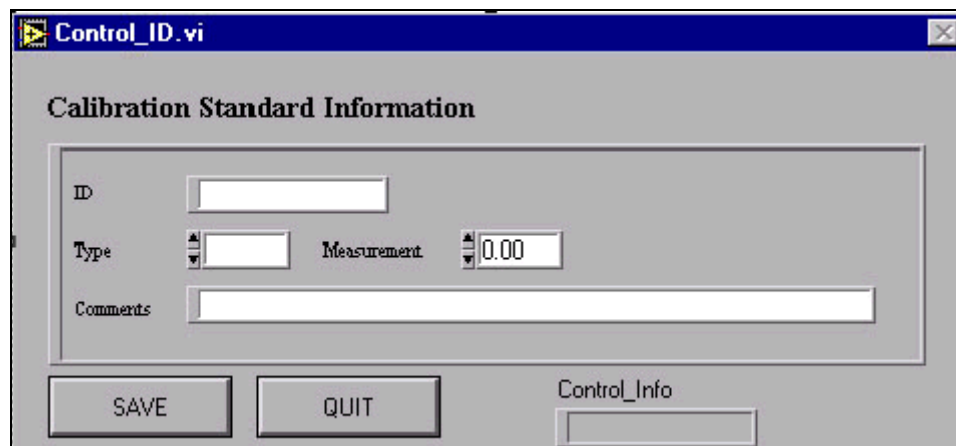

Figure 15. Example of entry blanks and up/down arrows.
| Figure 15. Select samples for analysis at this window. | 12 |
- Click on **New** to add a new standard. This opens the “Calibration Standard Info” window. Use the up and down arrows to set info or type it in manually (See Figure 15).